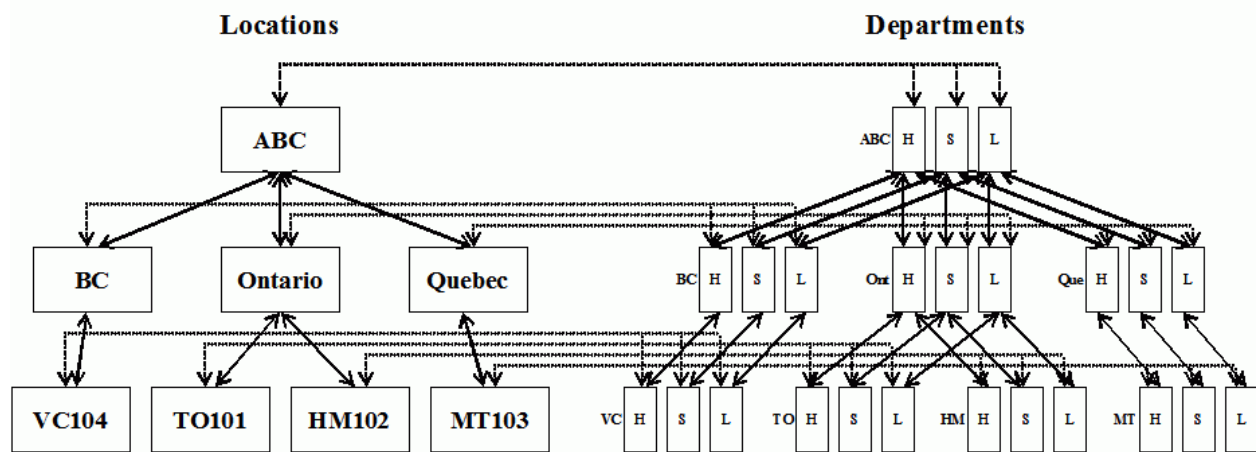
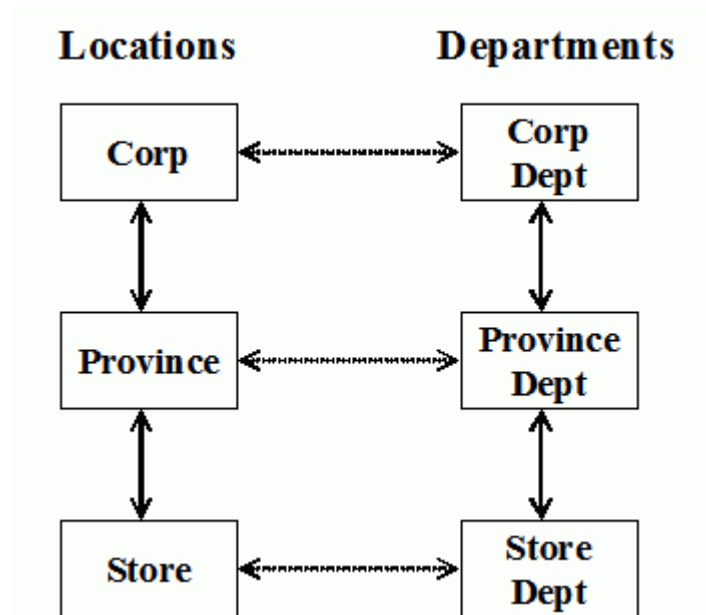

Figure 16 – Operational Model of Business Units
Figure 17 – Knowledge Model of Business Unit Groups
If you read the Detailed Output View you will have already seen Figure 16. The figure identifies the objects (Business Units in ARM), in our example model, about which we are keeping measurement results. This detailed object view is part of the Operational Model. Figure 17, in contrast, takes a higher level abstracted view, defining six different types of objects (Business Unit Groups in ARM), that correspond exactly to the Business Units in Figure 16.
- Only 8 of the 24 Business Units shown in Figure 16 are shown here